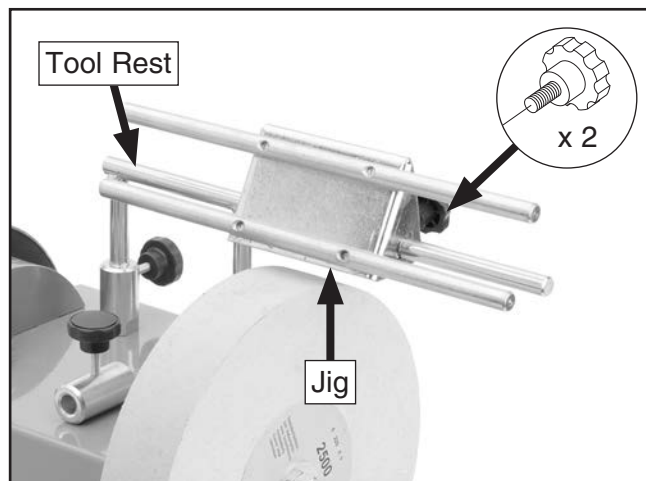

Figure 3. Jig installed on tool rest.
3. Slide jig onto tool rest and secure with (2) M6-1 x 22 knob bolts (see **Figure 3**).